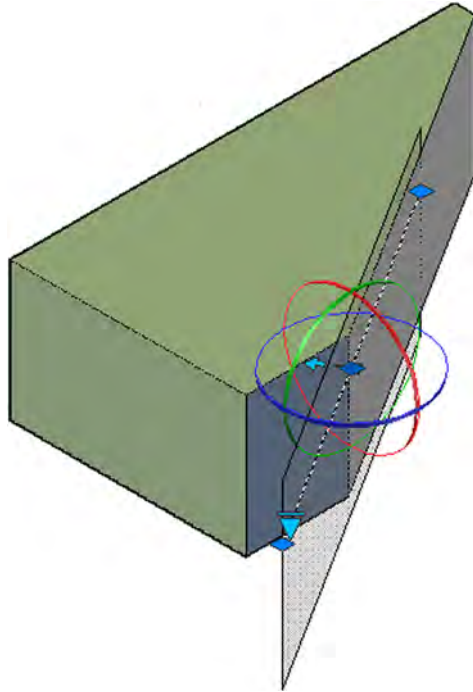

FIGURE 26.32
- **Section Plane:** This tool, found under the Ribbon's Mesh, Section, allows you to easily section a mesh shape to view the interior or just a piece of it. This tool can be used on regular solids as well. Simply press Section Plane and select a method of locating the plane. The result of sectioning a simple box is shown in Figure 26.32. The section itself can be rotated via the gizmo.